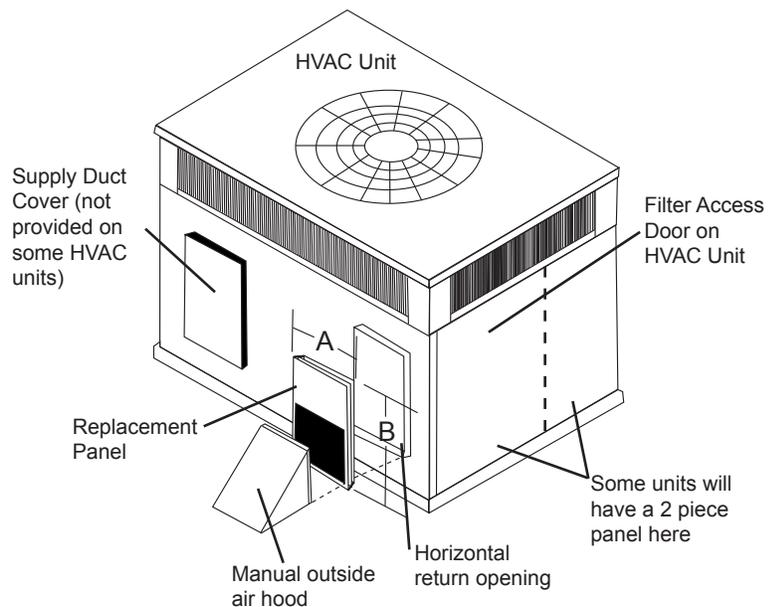

Fig. 1 - Hood Installation - Vertical Application
2. Caulk or gasket the back of the mating flanges on the Replacement Panel shipped with this package. Install the panel over the horizontal return air opening on the HVAC unit. Screw in place through pre-punched holes. See Fig. 1.